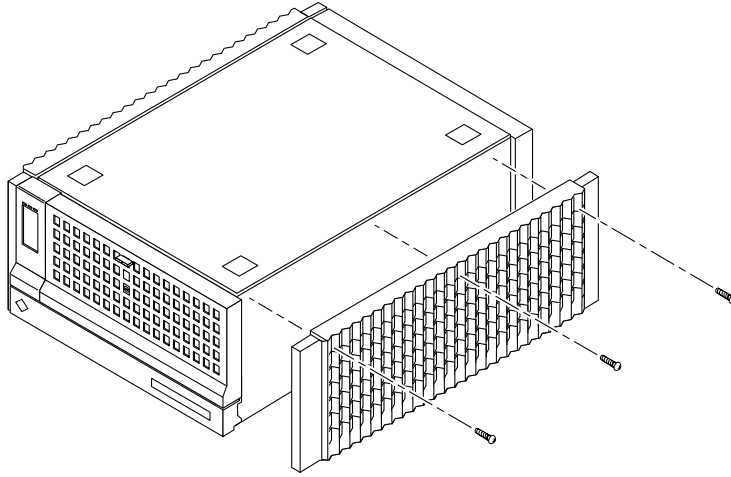

FIGURE 4-1 Removing the Side Panels
1. Use a No. 1 Phillips screwdriver to remove the three screws from a side panel (FIGURE 4-1).